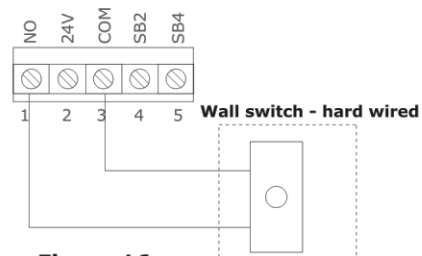

Figure 16
- d. Wall switch (hard wired)(Figure 16)